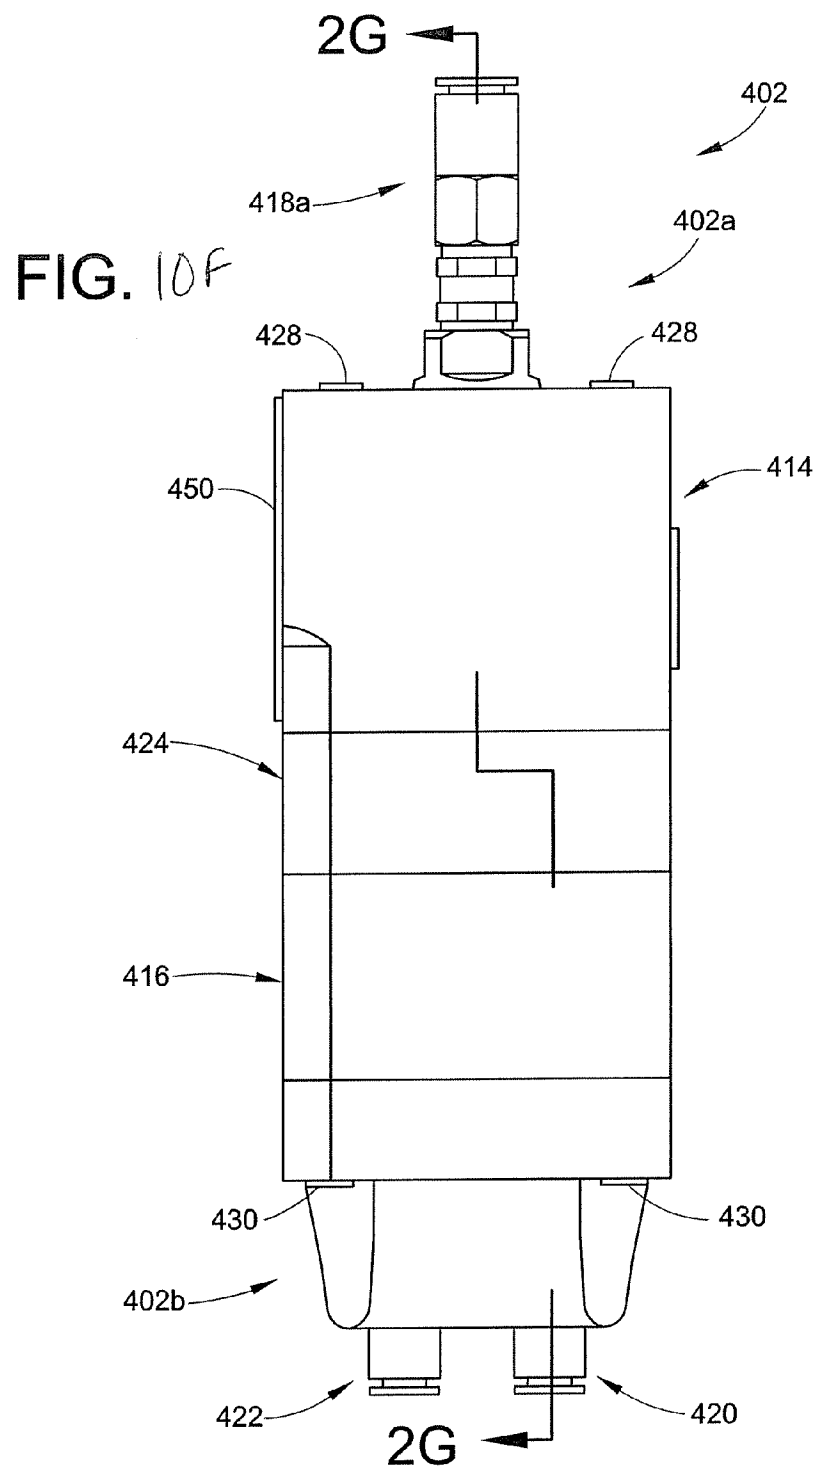

**FIG. 10E**
FIG. 10E is a cross-sectional view of a mechanical assembly. The assembly includes a central shaft (402) passing through a series of components. At the top, there is a flange (508) and a seal (418a). Below this is a component (506) with a central opening. The shaft passes through a block (504) which has two small protrusions (528) on its top surface. The shaft then passes through a block (450) which has a horizontal slot (442e) and a vertical slot (444e). Below this is a block (459) with a central opening. The shaft passes through a block (452) which has a central opening (452a) and a side opening (452b). Below this is a block (466) which has a central opening (482) and side openings (446a, 480). The shaft passes through a block (416) which has a central opening (484) and side openings (446b, 481). Below this is a block (479) which has a central opening (482) and side openings (446a, 480). The shaft passes through a block (498a) and (498b) which have side openings (422, 420). The shaft ends in a component (402) at the bottom.